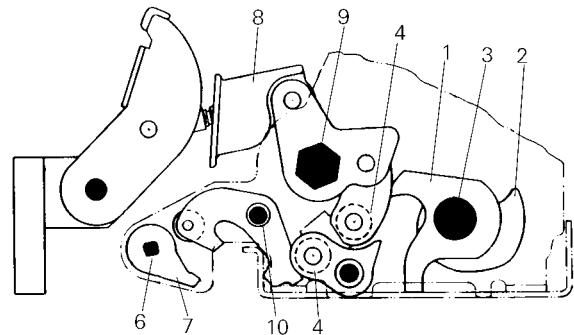
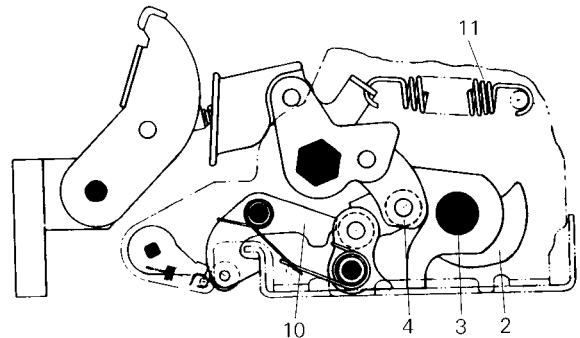

Figure 5-9. Breaker mechanism in the TRIPPED position.
Figure 5-10. Breaker mechanism in the RESET position.
Tripped Position – The mechanism goes from the CLOSED position to the TRIPPED position, illustrated in Figure 5-9, when the trip shaft (6) is rotated by either the manual trip button or one of the other trip devices. The trip latch (7) is assembled to the trip shaft. When the trip shaft rotates, the trip latch disengages from the secondary latch roller (5). The secondary latch pivots, resulting in the collapse of the toggle linkage. This collapse, along with the opening spring (11), shown in Figure 5-10, causes the breaker contacts to open.
Reset Position – The closing cam (2), assembled to the cam shaft (3), is rotated by the charging motor, manual charging handle, or maintenance handle. The cam engages the cam roller and partially extends the toggle linkage. This allows the secondary latch (10) to pivot against the front frame, as illustrated in Figure 5-10, leaving a gap between the trip latch (7) and secondary latch roller (5). The secondary latch is now in a position to engage both the trip latch and cam roller (4).